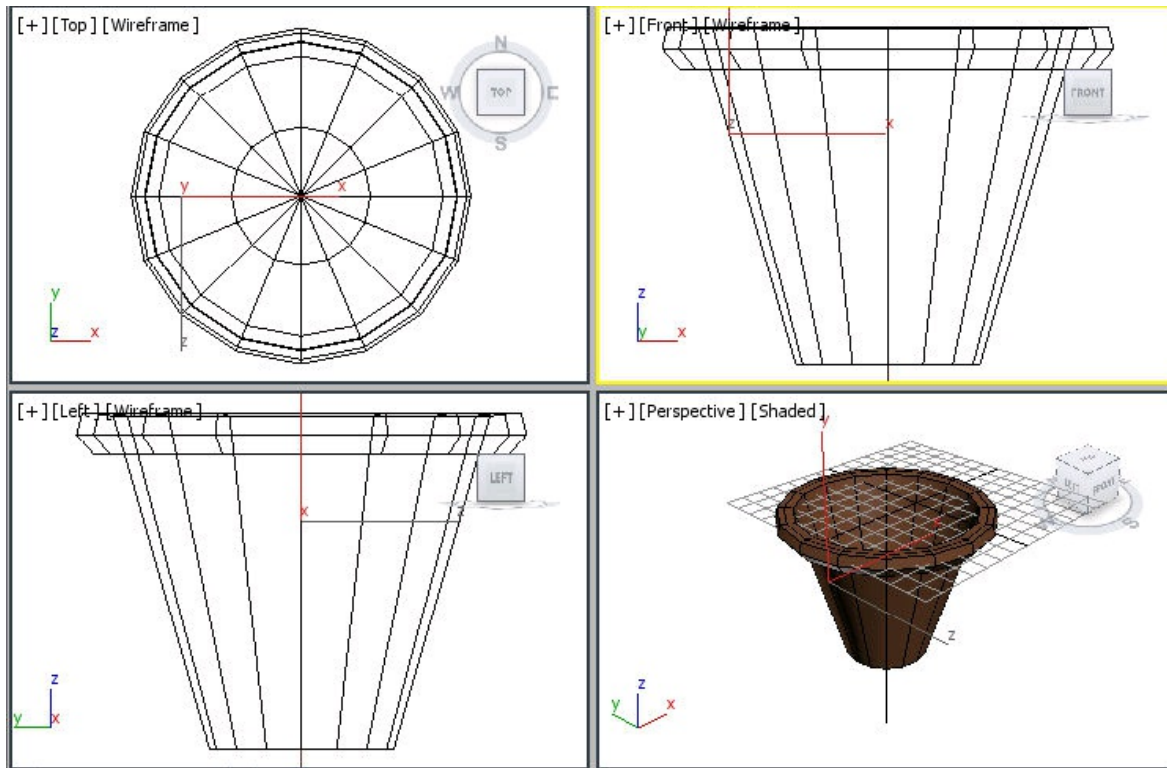

Figure 6-76 The vase geometry after applying the **Lathe** modifier
4. Choose the **Zoom Extents All** tool; the entire *vase* is displayed in the viewports, as shown in Figure 6-76.